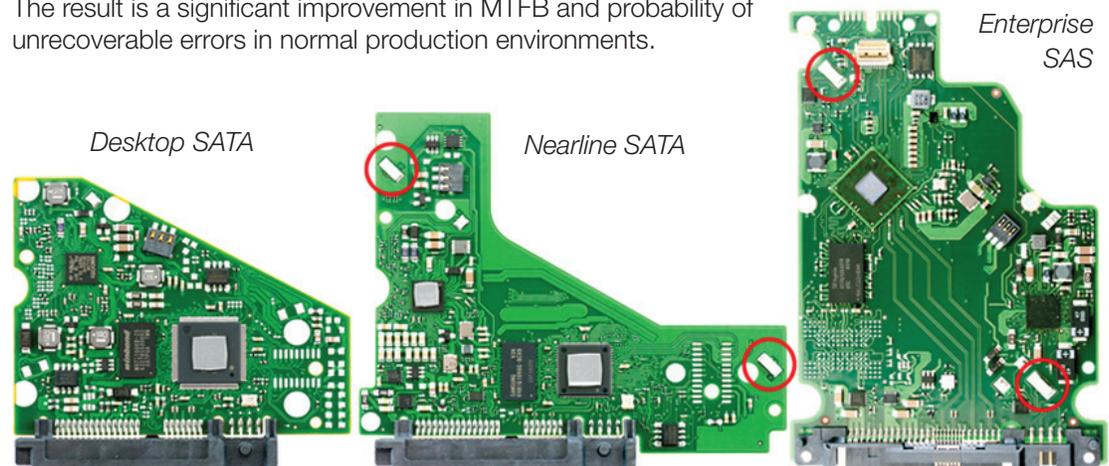

Figure 1, RV Sensors Desktop SATA (left), Nearline SATA (center), and Enterprise SAS (right)
Rotational Vibration (RV) Protections starts with RV sensing. This is accomplished by using two linear accelerometers (RV sensors) placed on the printed circuit board assembly. The RV sensor locations (Figure 1 circled in red) are optimized for separation distance and mounting conditions. These RV sensors measure external vibration that the drive is subjected to like fans, acoustic interruptions and rack vibration. This signal is proportional to the vibration magnitude. Nearline and enterprise drives utilize these RV sensors to measure external forces dynamically, providing data to the drive that can be used to help correct for environmental changes. Enterprise drives boost protection through enhanced technology including sophisticated feedforward anti-vibration circuits to monitor the drive and correct both linear and rotational vibration in real time, very similar to technology used in noise cancelling headphones. The result is a significant improvement in MTFB and probability of unrecoverable errors in normal production environments.